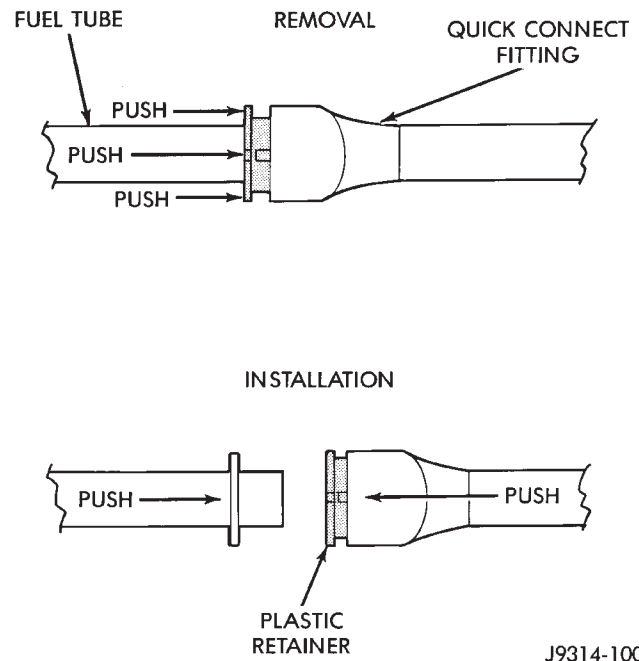

Fig. 17 Plastic Retainer Ring Type Fitting
(6) **Plastic Retainer Ring Type Fitting:** This type of fitting can be identified by the use of a full-round plastic retainer ring (Fig. 17) usually black in color.
ment being serviced while firmly pushing plastic retainer ring into fitting (Fig. 17). With plastic ring depressed, pull fitting from component. **The plastic retainer ring must be pressed squarely into fitting body. If this retainer is cocked during removal, it may be difficult to disconnect fitting. Use an open-end wrench on shoulder of plastic retainer ring to aid in disconnection.**